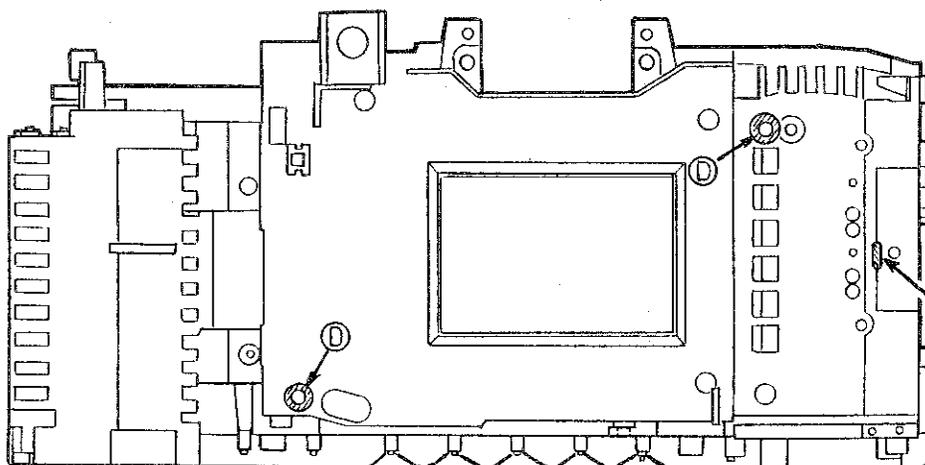

Fig. 56
- b) When the new type Mirror Box Ass'y is to be installed in the new type Body, remove the washers at the points ④. (See Fig.56)